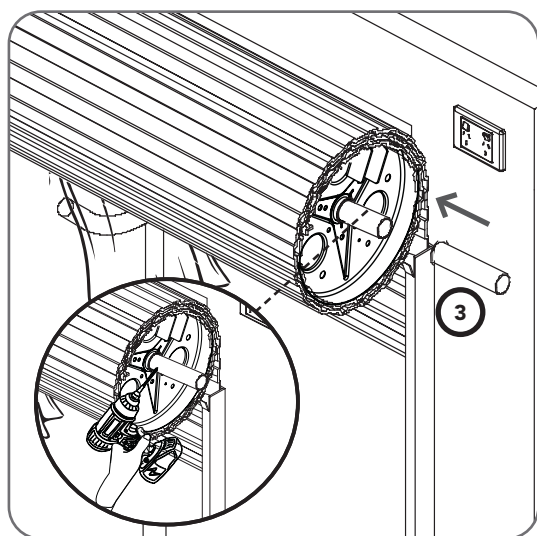

Fig. 3.1
- Insert the 1 1/4" extension pipe (3) over the end of the axle and push all the way down to the door drum in **Fig 3.1**.
- Drill a 3/16" pilot hole into extension pipe (3) on an angle 1" out from the curtain edge. (**Fig 3.1**)